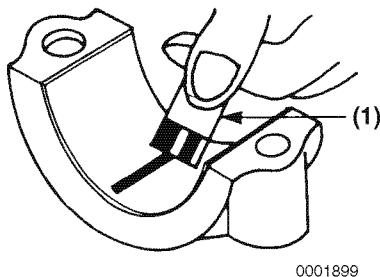

Figure 6-102
- (f) Compare the width of the flattened PLASTIGAGE to the graduation marks on the package (**Figure 6-102, (1)**). The mark that most closely matches the width of the flattened PLASTIGAGE will indicate the bearing oil clearance.